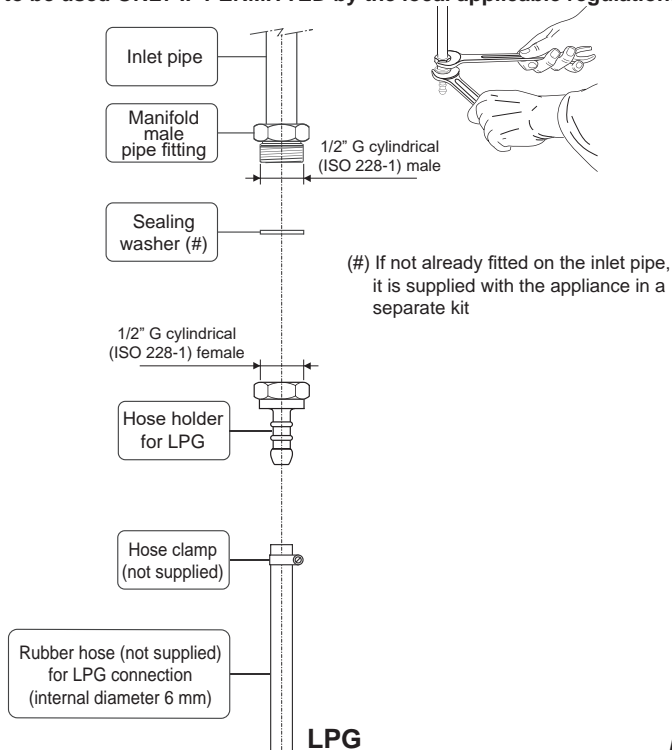

Fig. 2.2
1. If not already fitted, fit the LPG hose holder on the inlet pipe, making sure that you place the sealing washer between them (as shown in fig. 2.2).
- use two spanners when fitting the hose holder (fig. 2.2).